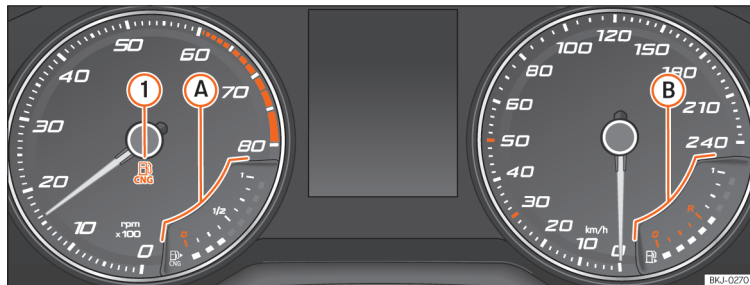

Fig.70 Analogue instrument panel: natural gas gauge
It lights up green »» Fig. 70 ①